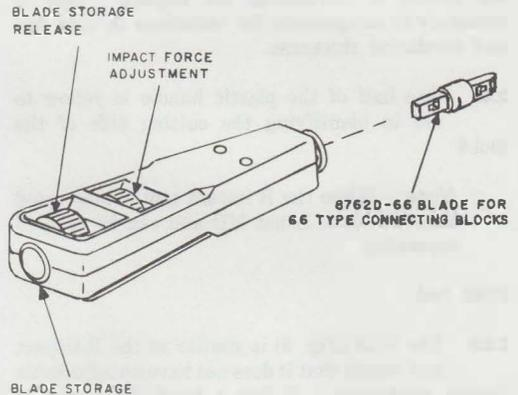
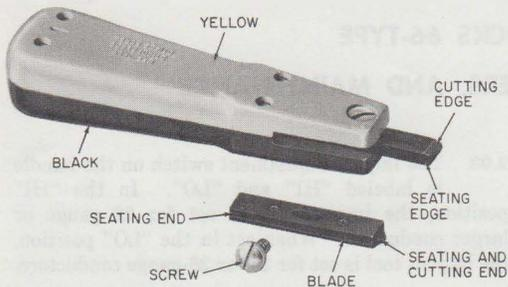
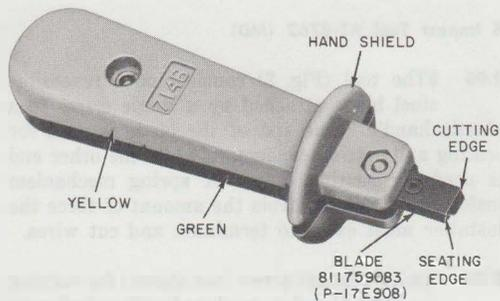

Fig. 1—D Impact Tool
Fig. 2—B Impact Tool (MD)
Fig. 3—714B Tool
2.01 The D impact tool (Fig. 1), the B impact tool (MD) (Fig. 2), and the 714B tool (Fig. 3) are used to make terminations on 66-type connecting blocks. The D impact tool is recommended for use in installations where numerous cutdowns are required. The 714B is intended for occasional or intermittent use.
2.02 The D impact tool (Fig. 1) consists of a handle with a switchable dual force impact mechanism, a blade release switch, and a cavity for storing a spare blade. The handle is designed to accept three different type blades, one of which is the 8762D-66 blade designed for use with the 66-type connecting block.
2.05 ◆The tool (Fig. 2) consists of a reversible steel blade attached by a single screw to a plastic handle. One end of the blade is used for seating and cutting conductors while the other end is used for seating only. A spring mechanism inside the handle controls the amount of force the installer must exert to terminate and cut wires.
**2.08** The 714B (Fig. 3) is similar to the B impact tool except that it does not have an adjustable impact mechanism. It has a hand shield and is yellow and green instead of yellow and black.